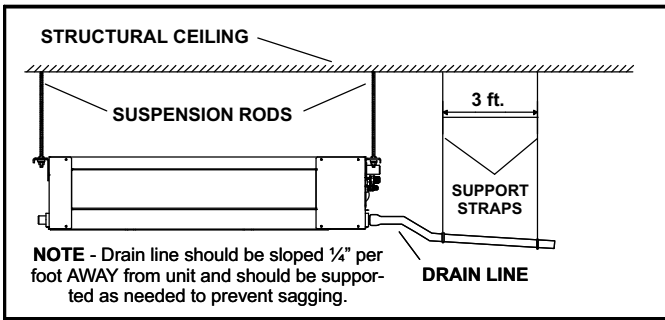

Figure 9. Sloped Condensate Drain — Single Unit
- 3 - See figure 9 for applications including a single unit and a single drain. In this case, ensure that the drain line is properly sloped (no less than 1/4 inch per foot) and condensate lines are routed to ensure moisture is drained away from the indoor unit.